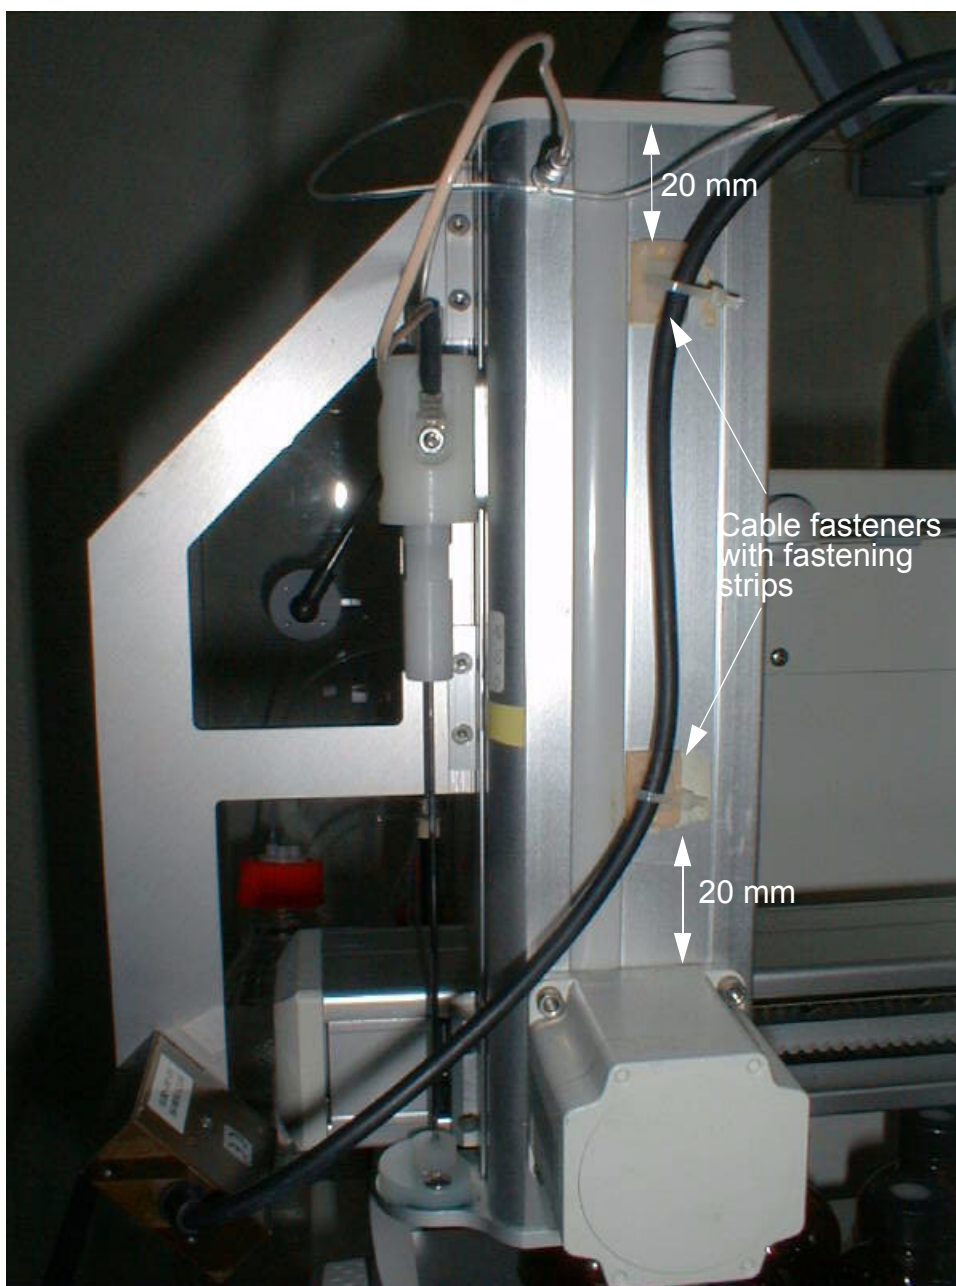

Figure 3.3. Securing the Barcode Cable
3. Affix the two adhesive fasteners to the Z-tower arm as shown in **Figure 3.3.** and fasten the barcode reader cable to them using the two plastic strips.